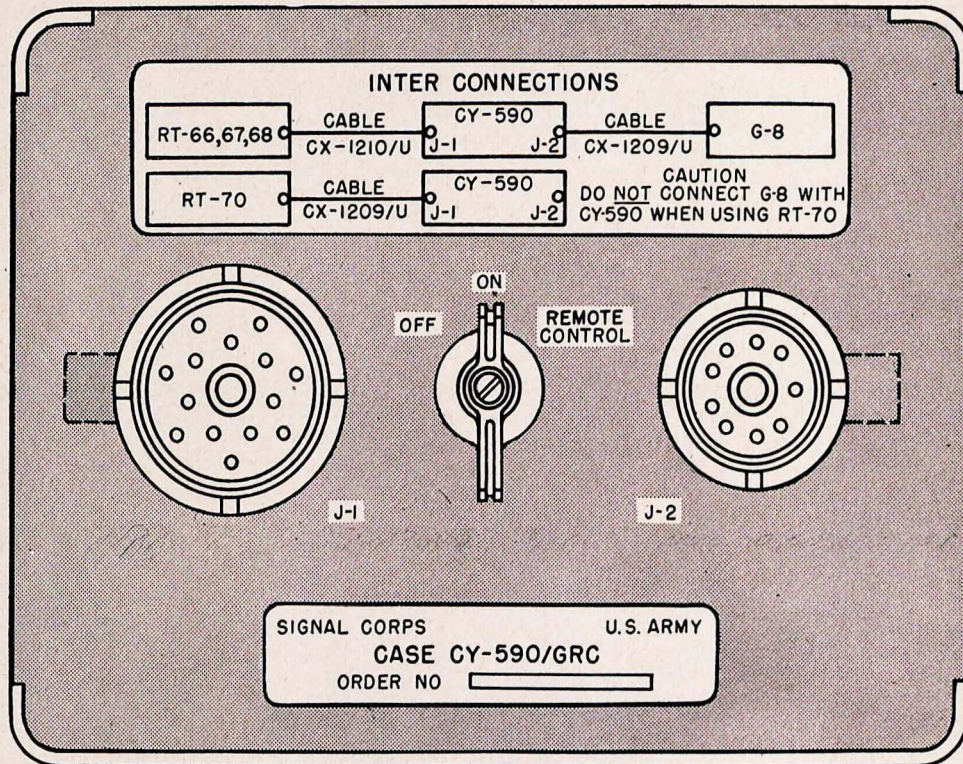

Figure 49. Case CY-590/GRC, front panel.
98. Controls (fig. 49)
The only operational controls for the field set-up (exclusive of controls on Control Group AN/GRA-6) are the OFF-ON-REMOTE CONTROL switch of the battery box (fig. 49) and the push-to-talk switch of the handset.